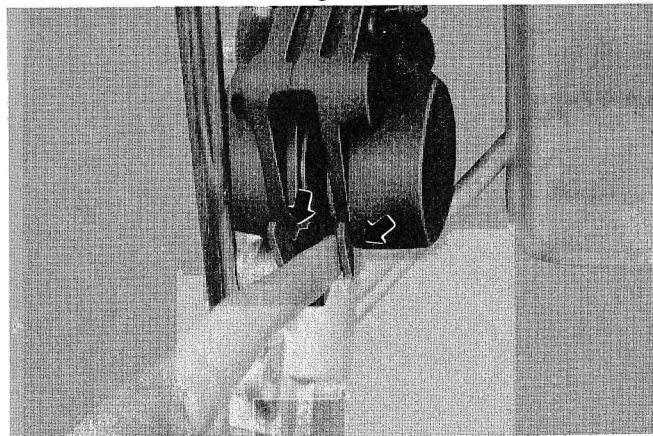

Fig. 13
9. The two pads in the disc brake caliper assembly should be kept forced into their seats. (Fig. 13)